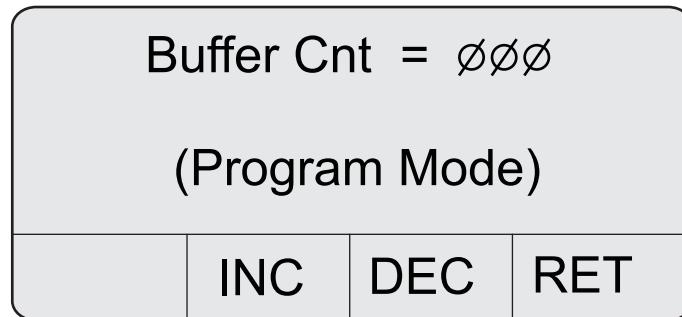

Figure 12 Buffer count screen
2. Press 2 (NXT) to display the Buffer Count screen (refer to Figure 12).